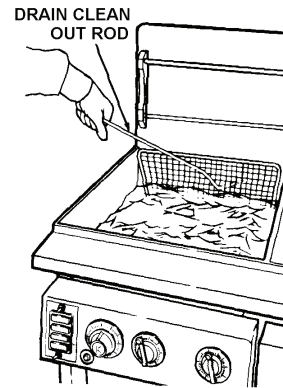

FIGURE 4. REMOVE SCREEN OVER TUBES/ELEMENTS
- Remove screen from over tubes/element with tongs or a Drain Clean Out Rod. Refer to Figure 4.